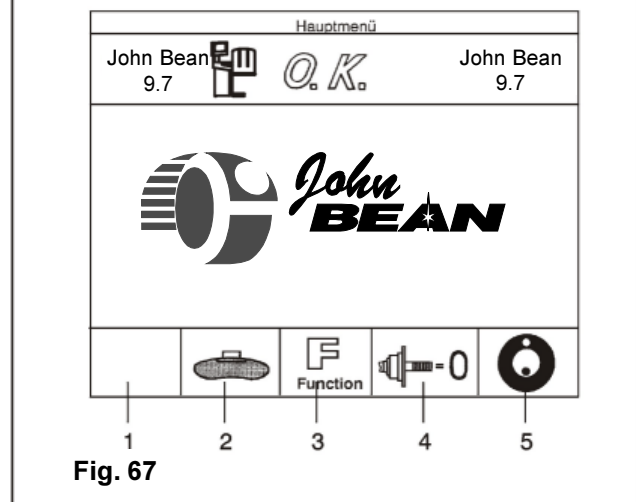

Fig. 67
- Starting from the screen as in **Fig. 67** (available after switching on) press menu key F (Item 3).